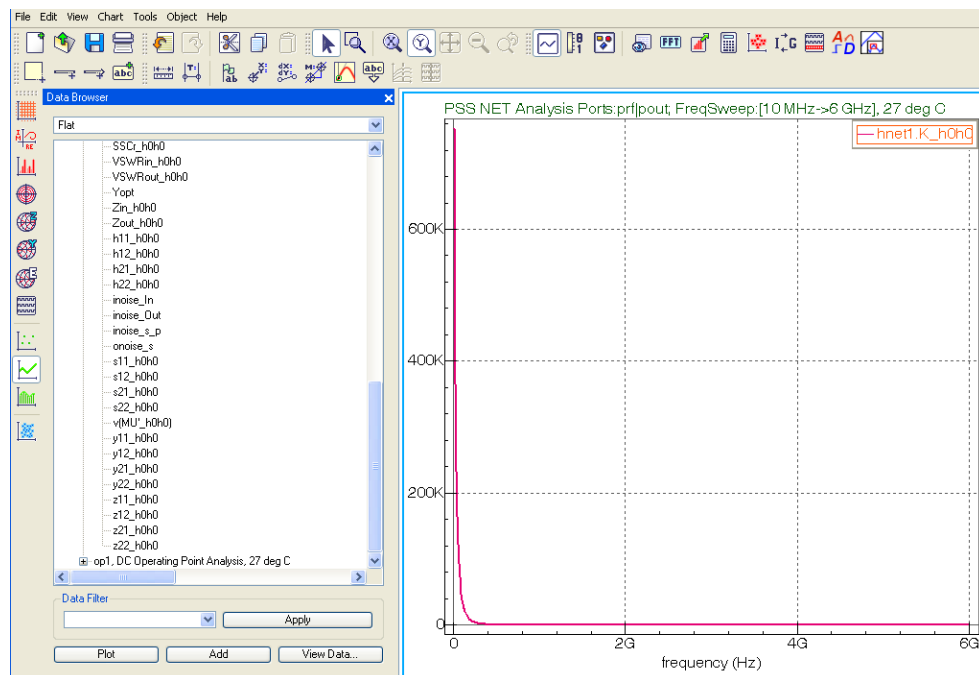

Figure 13: Stability Factor K Plot
3.6: To plot the stability factor, select the vector K_h0h0 and click **Plot** (Figure 13).